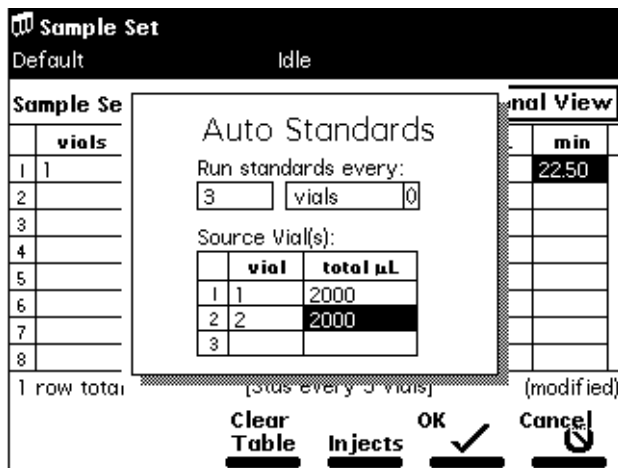

Figure 6-17 Auto Standards Dialog Box
1. Select **AutoStd's** from the drop-down list of functions, then press the **Row Details** screen key to display the Auto Standards dialog box (Figure 6-17).